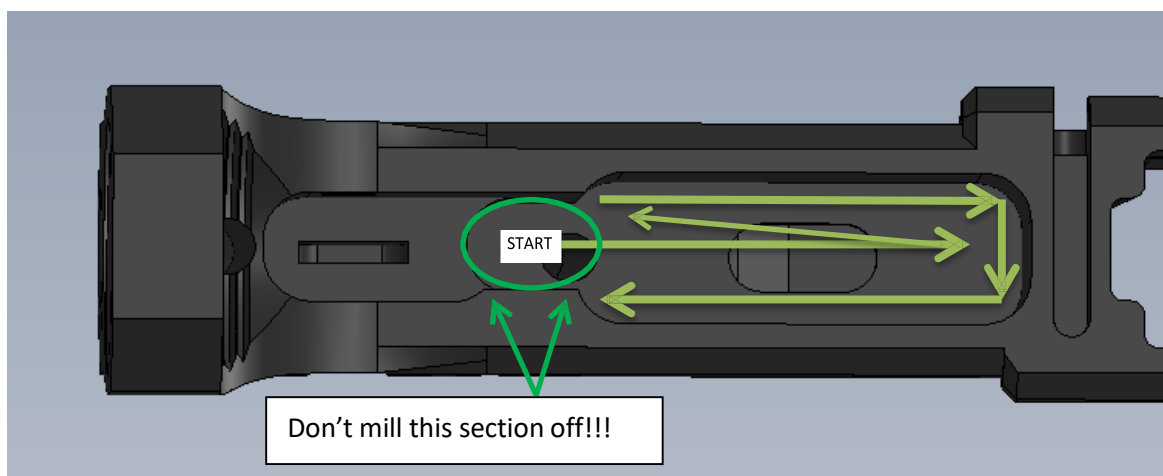

Figure 3
- 7. Once the fire control pocket and hole #1 are done you can start going straight across into the wider fire control pocket area to clear smooth out the floor and side walls to refine or smooth them out. It's important to start clearing out the hole from debris so you can see what you are doing. A strong light and a shop vac are useful. Figure 3 shows you the technique and pattern you should follow while plunging and milling.
you, from right to left. **ASSUMING YOU ARE USING A CROSS SLIDE VISE** therefore, when moving the jig underneath in the slide vise, follow the path pictured in Figure 3 to prevent the bit from jumping and chattering. You will work against the grain in one sense, rather than allowing the bit to grab and run.
10. **Each time you go through this process, FOLLOW THE PATH IN FIGURE 3.**